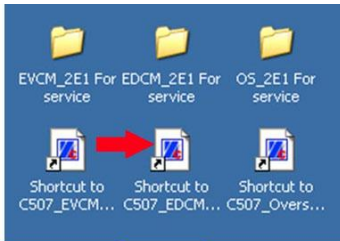

Figure 14
3.6. Double click the "EDCM 2E1" shortcut (arrow Figure 14) on the computer's desktop to open the calibration tool.